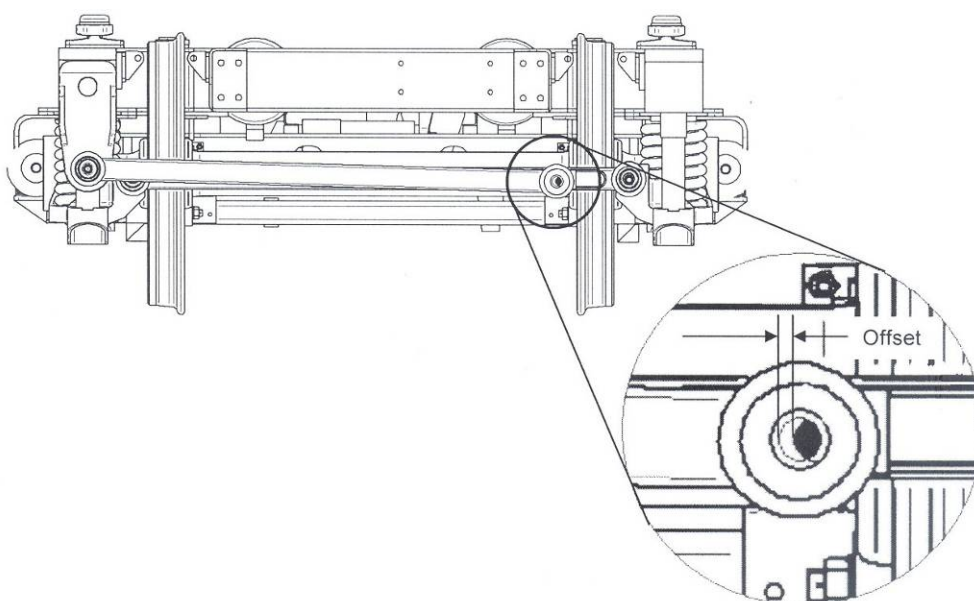

Figure 22.2: Assessment of Offset of Wheelset Assembly Using LCRS
- 22.5 Offer up the bogie LCR onto the tapered spigots to identify if there is any misalignment. If the wheelset is positioned correctly it should be possible to locate the LCR onto both spigots with no axial force. The LCR should slide on and off the tapered parts of the spigots easily. Where the wheelset is misaligned the direction of the misalignment can be assessed by checking the offset between the LCR spigot and bush centre lines (see Figure 22.2).